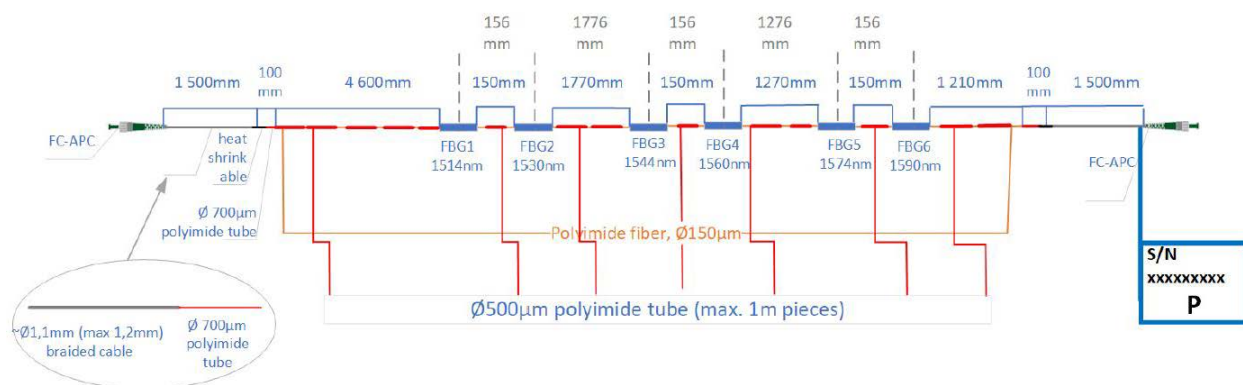

Figure 7: schematic of the cable
68. Prepare the fiber by carefully unwinding it from its packaging, identifying the connectors on each end by laying it out. Mark each end accordingly (Figure 7 will indicate LE on FBG6 end, and RE will be on the FBG1 end).